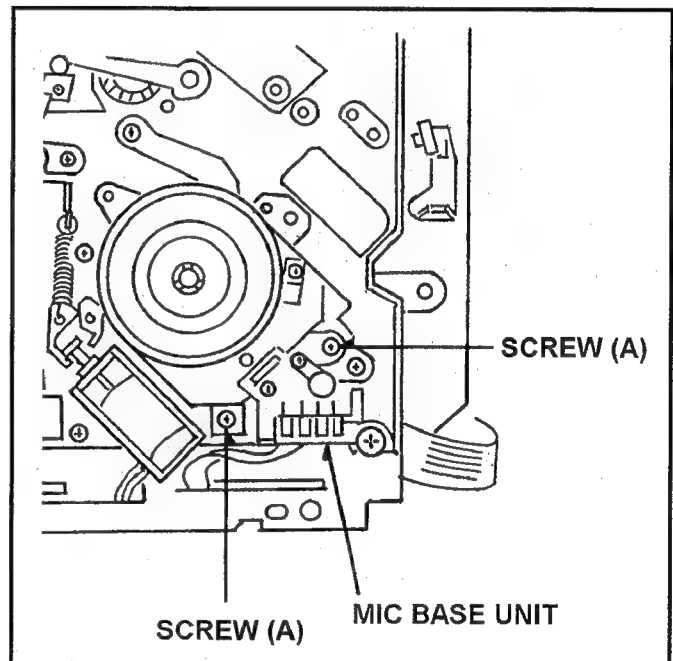

Fig. 10-10-1 Removal of MIC Base Unit
4. Unscrew the **2 screws (A)** and remove the MIC Base Unit as shown in Figure 10-10-1.